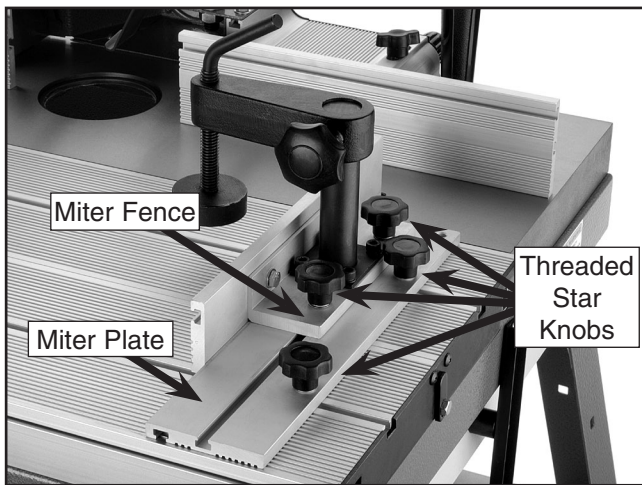

Figure 11. Installed sliding table fence.
3. Secure the miter fence to the miter plate with the threaded star knobs (**Figure 11**).